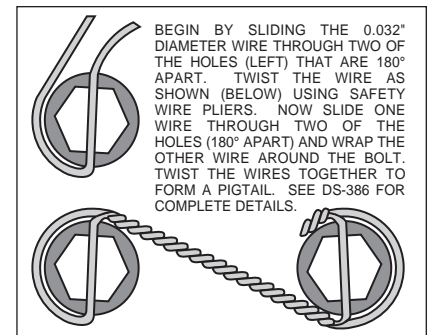

Figure 4. Safety Wire Diagram
- Slide the bracket kit assembly (1) onto the housing flange and then insert the axle assembly through the center hole of the bracket kit assembly (1). Secure using the stock Original Equipment Manufacturer (OEM) bolts and nuts. Stock OEM hex nuts that retain the bracket kit assembly (1) should be on the wheel side of the bracket. Apply red *Loctite*® 271 to the stock OEM bolt threads and torque to OEM specifications. Make sure the bracket kit assembly (1) brake pads are FACING OUTWARD TOWARDS THE WHEEL.
- With the larger I.D. side of the rotor (3) facing away from the hat (2), bolt the rotor (3) to the hat (2) through the backside of the rotor using washers (4) and bolts (5). Using an alternating sequence, apply red *Loctite*® 271 to the threads and torque bolts to 155 in-lb. For an added measure of security, the bolts may be safety wired using standard 0.032 inch diameter stainless steel safety wire as shown in Figure 4. Please refer to Wilwood's data sheet DS-386 (available at [www.wilwood.com/Pdf/DataSheets/ds386.pdf](http://www.wilwood.com/Pdf/DataSheets/ds386.pdf)) for complete safety wire installation instructions.